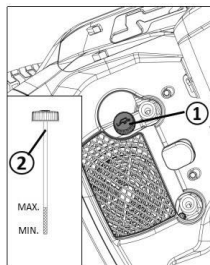

Figure 26
2. Unscrew the oil filler cap (Figure 26 ①).
3. Pour in oil until the oil level can be seen between the MIN and MAX marks on the oil dipstick (Fig. 26 ②). Do not overfill the engine!